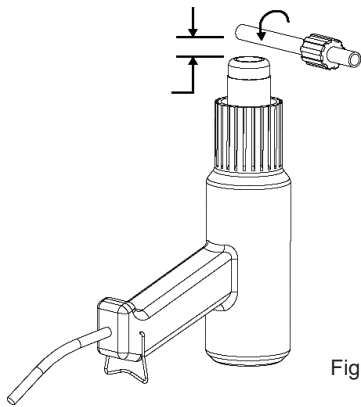

Figure 1
1. Set the hot air gun on "High". Hold the PFA tubing end flush with the heater edge and 1/2" to 3/4" above the heater (see Figure 1) and slowly rotate the tubing 360° for 25 seconds, or until a fine, clear line appears around the tubing.